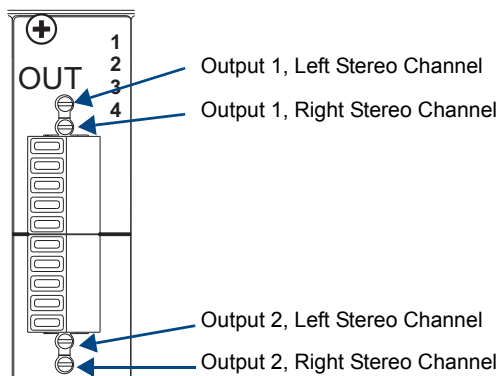

FIG. 64 Output gain adjustment pots
2. Adjust the output volume for the destination to the desired dB level by turning the corresponding potentiometer (FIG. 64) clockwise (to the right) to decrease volume or counterclockwise (to the left) to increase volume.